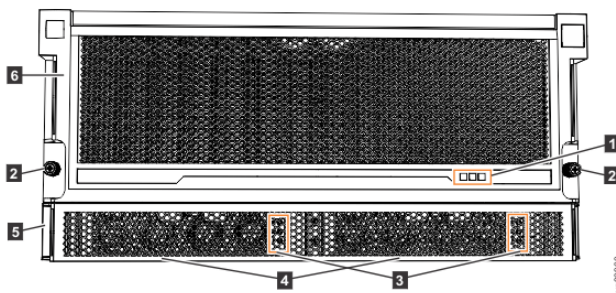

Figure 53. Features on the front of the 5U expansion enclosure
Important: Before you connect the power cables to the rear of the enclosure, always check that the expansion enclosure is secured in the rack. If needed, tighten the thumbscrews on the front of the enclosure (2 in Figure 53 on page 89) to ensure that the enclosure drawer does not roll open.
The 5U expansion enclosure has two power supply units (PSUs) that are accessible from the front of the enclosure (4 in Figure 53 on page 89). As the figure also shows, the PSUs are covered by the 1U fascia (5).
On the front of the enclosure, the indicators on the front display panel and each PSU (1 and 9 in Figure 53 on page 89) are also lit when the power is connected. See “High density expansion enclosure LEDs and indicators” on page 226 for information about the status that is provided by the indicators.